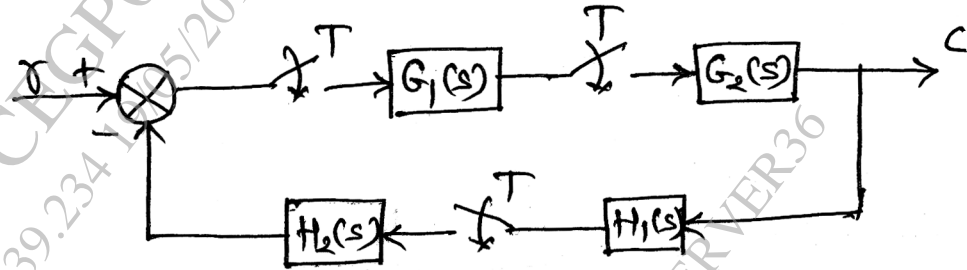

Fig. 3
- (b) Obtain pulse transfer function $C(z)/R(z)$ for the system shown in Fig. 3 using first principle (starred Laplace transform method): [7]